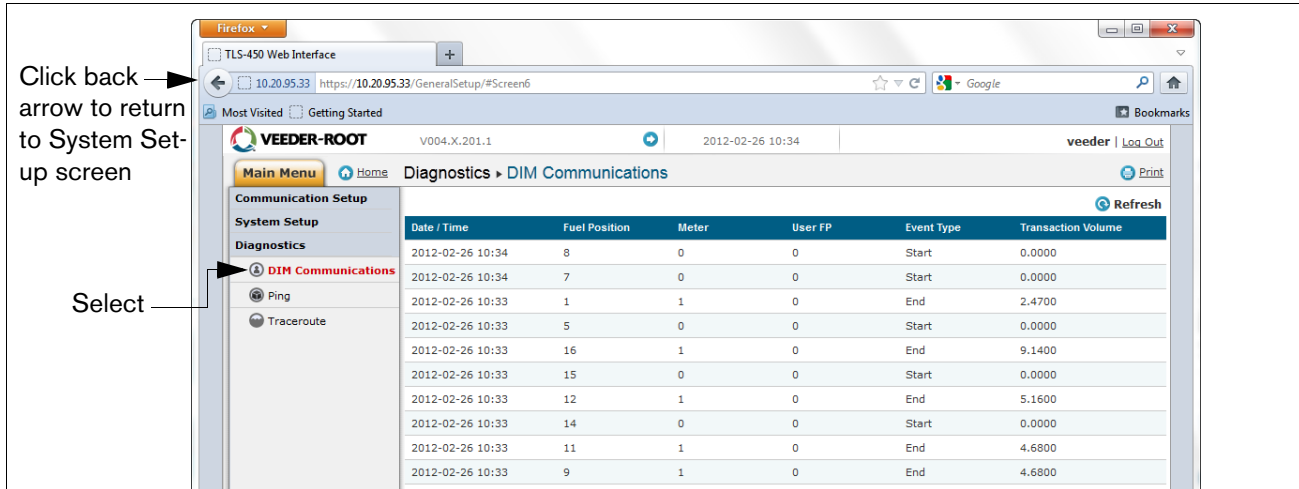

Figure B-10. Verifying DIM Communication
12. In the "Diagnostics" page (lower left in above figure), click on "DIM Communications" to verify that the DIM communications are successfully being recorded by the Datalogger. Any transactions occurring after the Datalogger was configured will be shown on the screen (see example in Figure B-10).